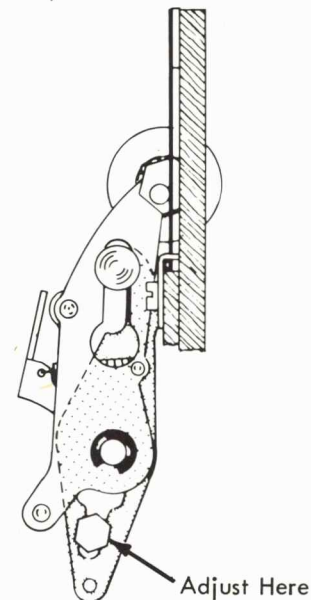

FIGURE 77. Rotate Arm Movement
10. Rotate Arm Motion - The adjustable plate on the bottom of the rotate arm (Fig. 77) should be adjusted up or down so that a half-cycled upper case +5 rotate character detents the same as a half-cycled upper case -3 rotate character. When observing the detenting remove the head play lightly in the negative direction.